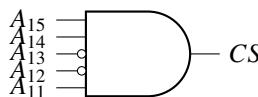

Fig. 3.29: Logic Diagram
46. The chip select logic for a certain DRAM chip in a memory system design is shown below in Fig. 3.29. Assume that the memory system has 16 address lines denoted by